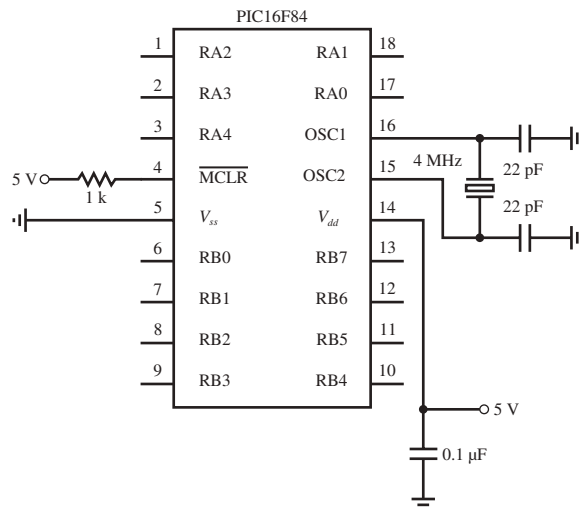
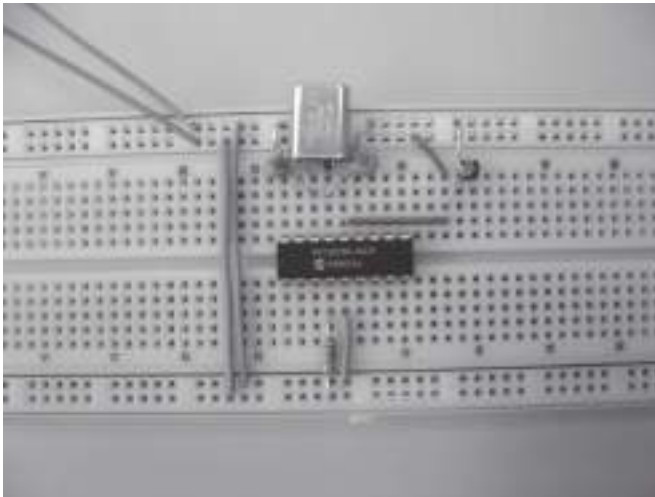
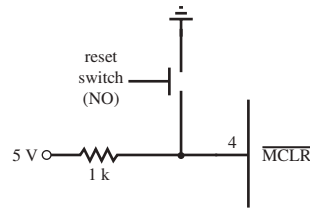

Figure 7.4 PIC16F84 pin-out and required external components.
Figure 7.5 Required PIC16F84 components on a breadboard.
Figure 7.6 Reset switch circuit.
The PIC16F84 is packaged on an 18-pin DIP IC that has the pin schematic (pin-out) shown in Figure 7.4. The figure also shows the minimum set of external components recommended for the PIC to function properly. Figure 7.5 shows what the schematic shown in Figure 7.4 looks like when assembled on a breadboard with actual components. Table 7.1 lists the pin identifiers in natural groupings, along with their descriptions. The five pins RA0 through RA4 are digital I/O pins collectively referred to as **PORTA**, and the eight pins RB0 through RB7 are digital I/O pins collectively referred to as **PORTB**. In total, there are 13 I/O lines, called **bidirectional** lines because each can be individually configured in software as an input or output. PORTA and PORTB are special purpose file registers on the PIC that provide the
PIC to reset and restart the program stored in EEPROM. This pin must be held high during normal program execution. This is accomplished with the pull-up resistor shown in Figure 7.4. If this pin were left unconnected (floating), the chip might reset itself sporadically. To provide a manual reset feature to a PIC design, you can add a normally open (NO) pushbutton switch as shown in Figure 7.6. Closing the switch grounds the pin and causes the PIC to reset.
The PIC **clock** frequency can be controlled using different methods, including an external RC circuit, an external clock source, or a clock crystal. In Figure 7.4, we show the use of a clock crystal to provide an accurate and stable clock frequency at relatively low cost. The clock frequency is set by connecting a 4-MHz crystal across the OSC1 and OSC2 pins with the 22 pF capacitors grounded as shown in Figure 7.4.